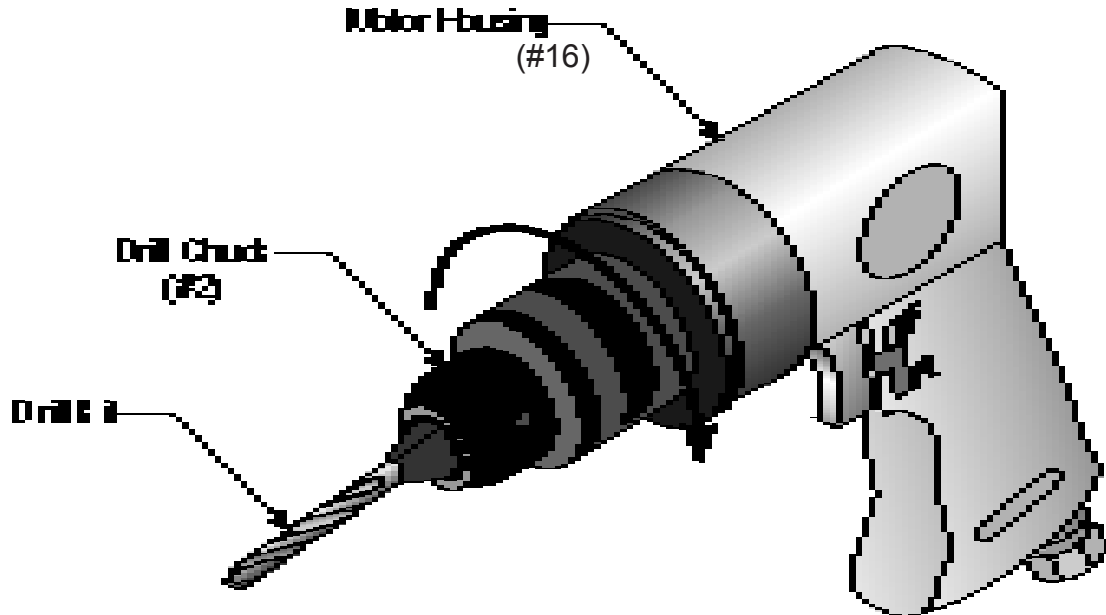

Figure 2 — Tightening the Jaws
Step 4: By hand, turn the DRILL CHUCK to tighten the Jaws as shown in Figure 2.